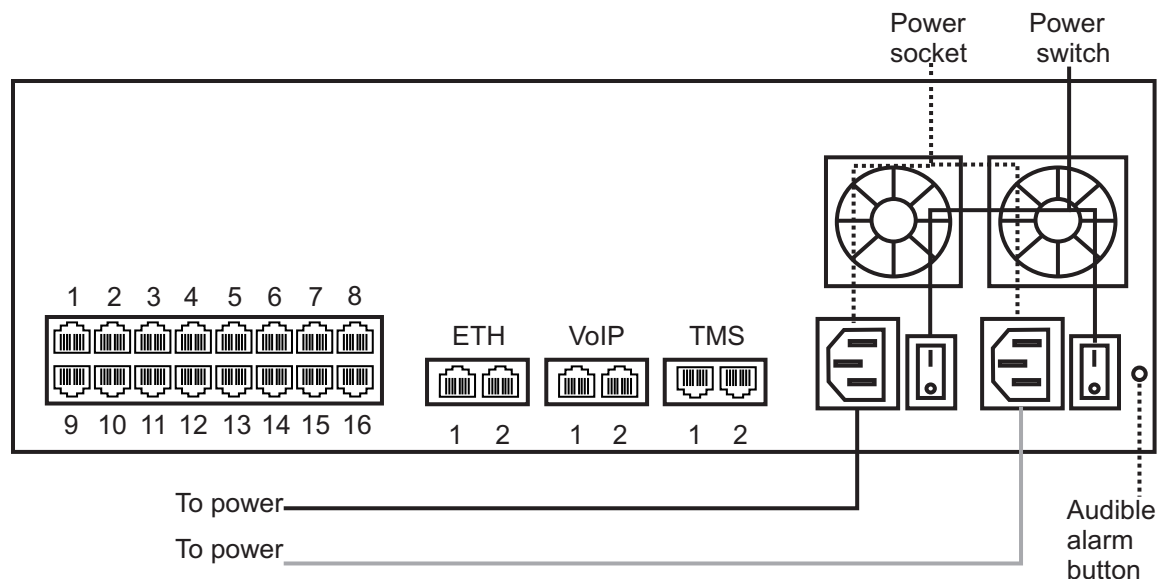

Figure 2.9 AC Power Connection
1. Connect one AC power cable between the AC connector of the TMG5800 and an AC supply. See figure 2.9 on page 19. If the TMG5800 features a second AC connector, connect an additional AC power cable between this connector and an AC power supply. If the TMG5800 features a second power supply and it is not connected to an AC power source, press the green button located at the rear of the unit to disable the audible alarm. See figure 2.9 on page 19.